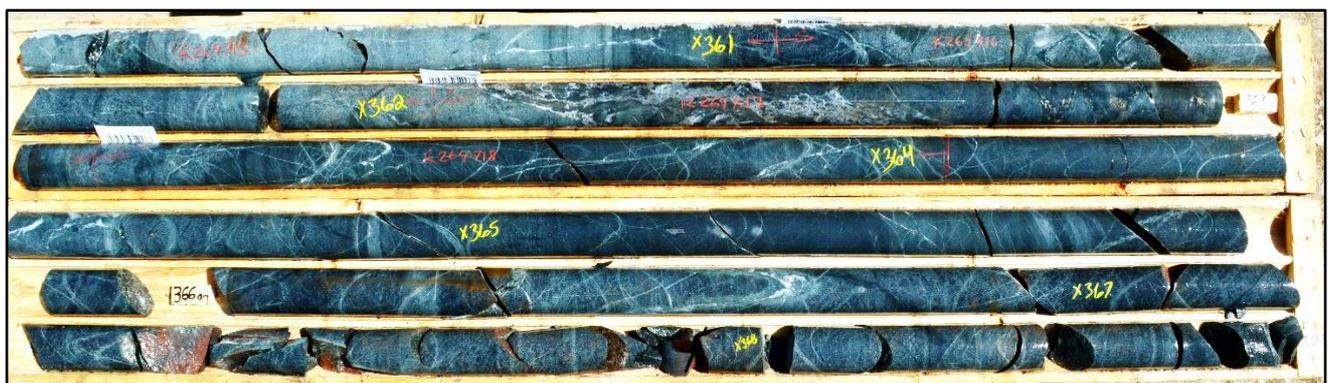
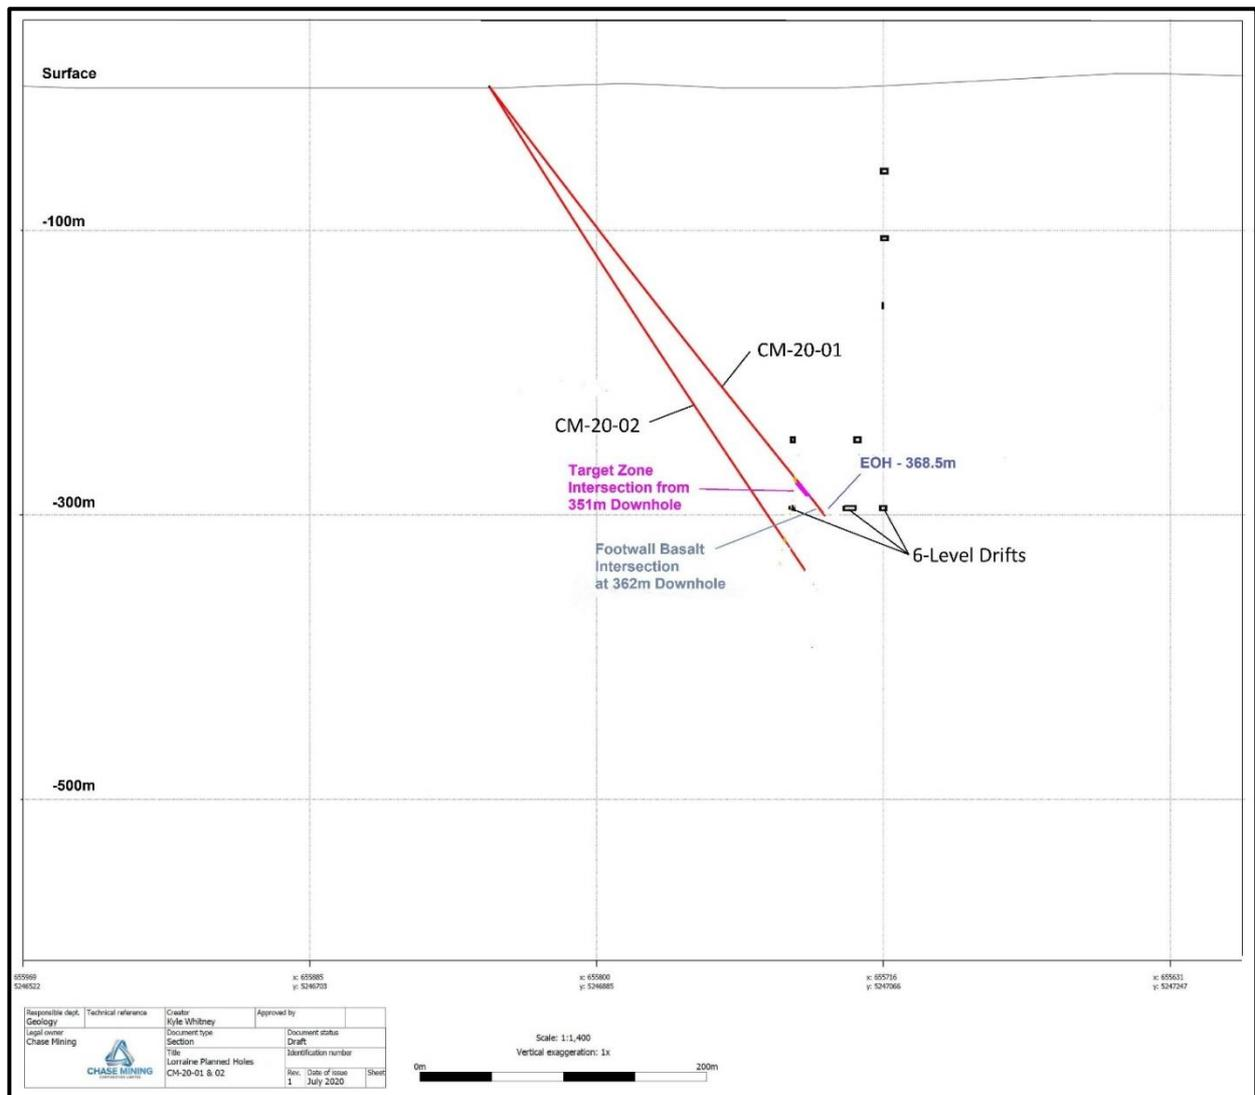

Figure 3: 8-Metre quartz-carbonate breccia in footwall basalt ~360m to ~368m downhole, as detailed at 362.4m in Figure 4.
Figure 5: CM-20-01- schematic drill section
- A second ~8m wide downhole zone of brecciation with increased pyrite-pyrrhotite-chalcopyrite aggregates at 362m (Figure 3) was intersected in footwall basalt from ~360m downhole, approximately 7m below the target zone (Figure 5);
Diamond drillhole **CM-20-01** was successfully completed at 368.5m (**Figure 5**). The hole intersected the targeted contact shear zone over ~4m from 351.5m downhole including a quartz-carbonate-fuchsite vein with aggregates of pyrite-pyrrhotite-chalcopyrite at 353.4m. (Figures 1 and 2).
An 8-metre wide (second) zone of brecciation with increased pyrite-pyrrhotite-chalcopyrite aggregates at 362m downhole was intersected from 360m downhole (Figure 3). This zone of brecciation / crack-seal veining is ~7m below the Target Zone as shown in Figure 5.